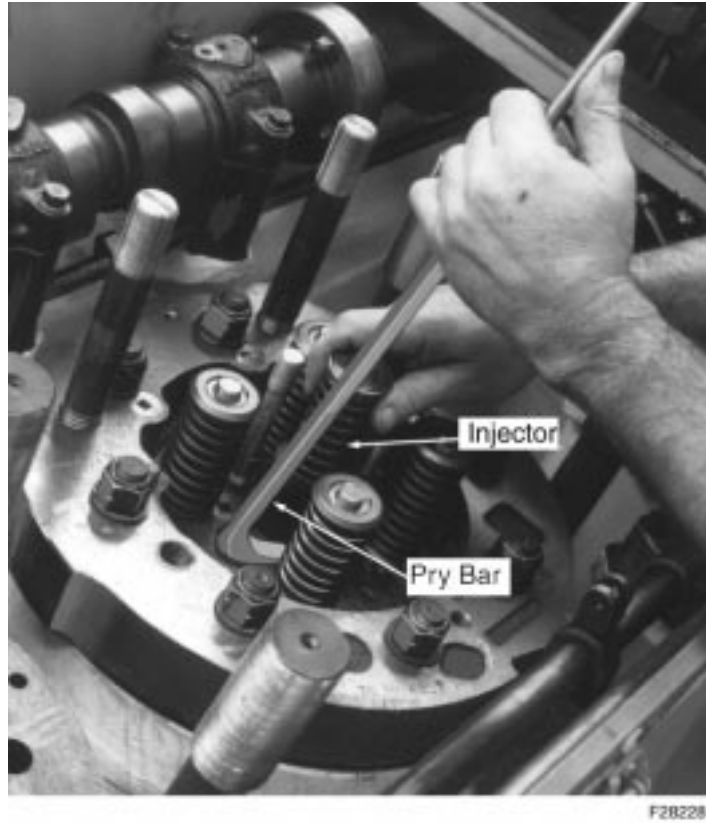

Figure 5-4. Removing Injector With Pry Bar
17. With Mechanical Unit Injectors (MUI); use the injector pry bar, Figure 5-4., and remove the injector from the tapered well in the cylinder head. Protect the injector from dirt and damage by using an injector holding rack.
17. Using the injector pry bar, Figure 5-4., on page 5-6, remove the injector (injector and adapter collar W/ EUI) from the tapered well in the cylinder head. Protect the injector from dirt and damage by using an injector holding rack.